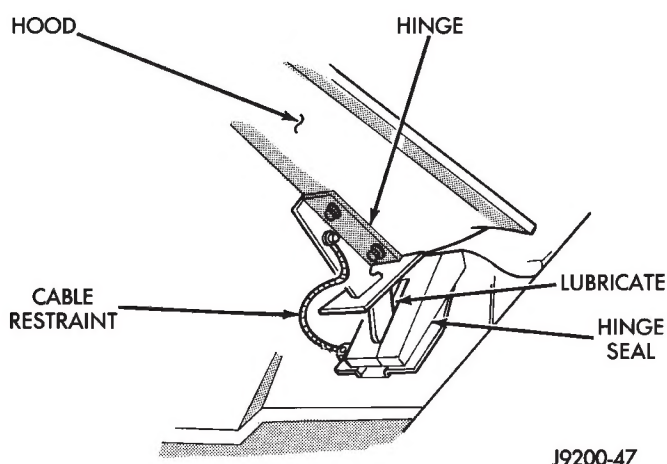

Fig. 11 Hood Hinge Lubrication—XJ Vehicles
- Liftgate/tailgate/hood hinges (Fig. 11).
(1) As required, lubricate the body components with the specified lubricants.
(2) Apply silicone lubricant to a cloth and wipe it on door seals to avoid over-spray that can soil passenger clothing.
(3) Before applying lubricant, the component should be wiped clean. After lubrication, any excess lubricant should be removed.
(4) The door lock cylinders should be lubricated 2 times each year (preferably autumn and spring):